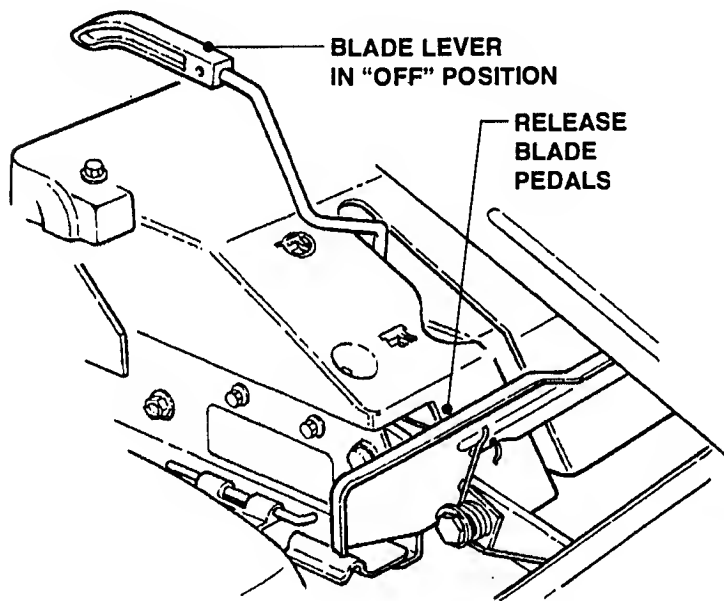
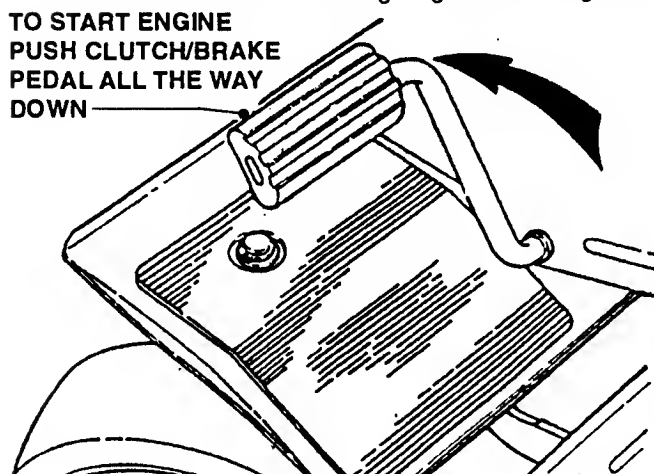
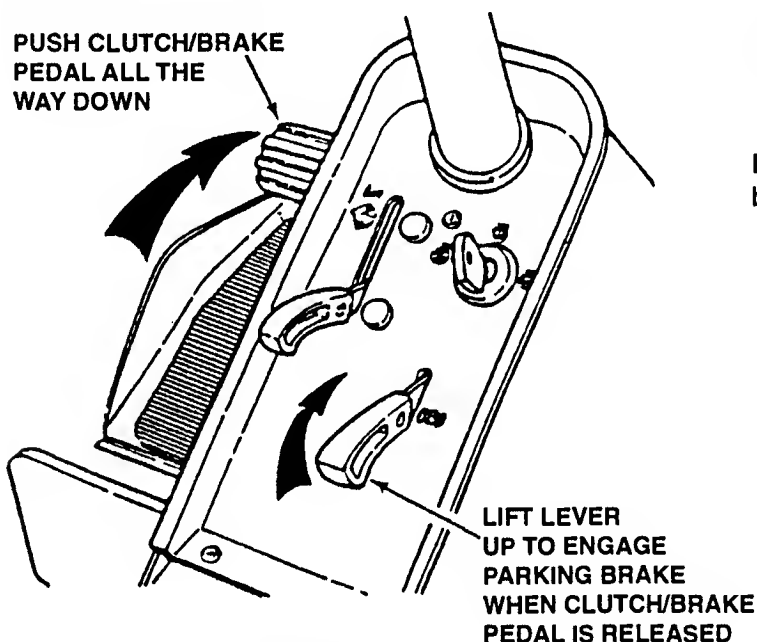

FIGURE 2.4
FIGURE 2.5
FIGURE 2.8
**IMPORTANT:** When the ignition key is turned to "START", the engine will turn over, but will not start unless the Clutch/Brake pedal is pressed all the way down, the Blade Lever is in the "OFF" position (See Figure 2.5). The operator should be in the seat. Start engine as follows:
1. Move transmission shift lever to (N) Neutral position. **DO NOT** start engine with transmission shift lever in a drive position.
2. Make certain the Blade Lever is in the "OFF" position. See Figure 2.4.
3. Press Clutch/Brake Pedal all the way down and hold while starting engine. See Figure 2.5.
**IMPORTANT:** When the ignition key is turned to "RUN", and the recoil handle is pulled, the engine will turn over, but will not start unless the Clutch/Brake Pedal is pressed all the way down with Parking Brake engaged (See Figure 2.8) and the Blade Lever is in the "OFF" position (Refer to Figure 2.4). Start engine as follows:
2. Make certain the Blade Lever is in the "OFF" position. Refer to Figure 2.4.
3. Press Clutch/Brake Pedal all the way down, lift Parking Brake Lever and release the Clutch/Brake Pedal to set Parking Brake. See Figure 2.8.